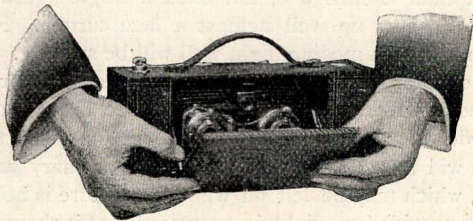

FIG. 11.
3. Press down on the arm locks on each side of the base as shown in Fig. 11. The base will then close readily.